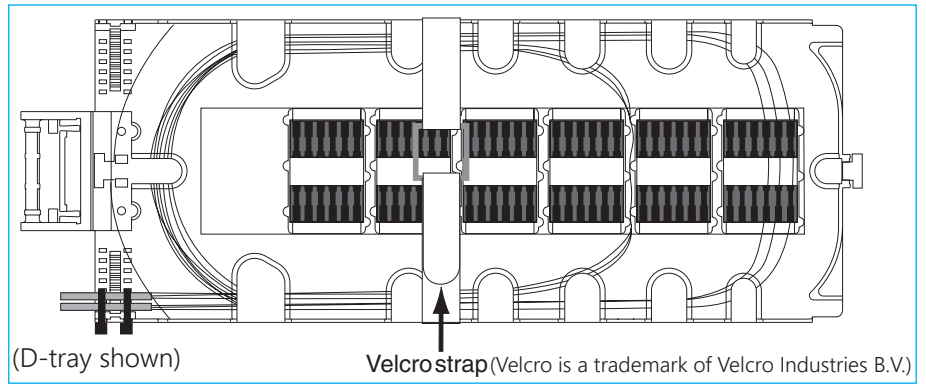

Figure 39.
10.6.3 Store the first completed splice in the top splice slot (the slot farthest from the hinge). Coil the slack loops around the tray in an orderly fashion. The splice modules can be moved or removed to accommodate your splice arrangement; however, the lowest splice module (the one closest to the hinge) cannot be closer to the hinge than its position in Figure 39 (see next page) indicates for the FOSC 400 D5 closure. No more than six modules can be placed in one splice tray for the FOSC 400 D5 closure; no more than two for the FOSC 400 C5 closure. Splices accommodated by this closure are listed in Section 1.
10.6.6 Secure all trays to the bottom tray bracket with the Velcro strap as shown. (Figure 39, see next page)